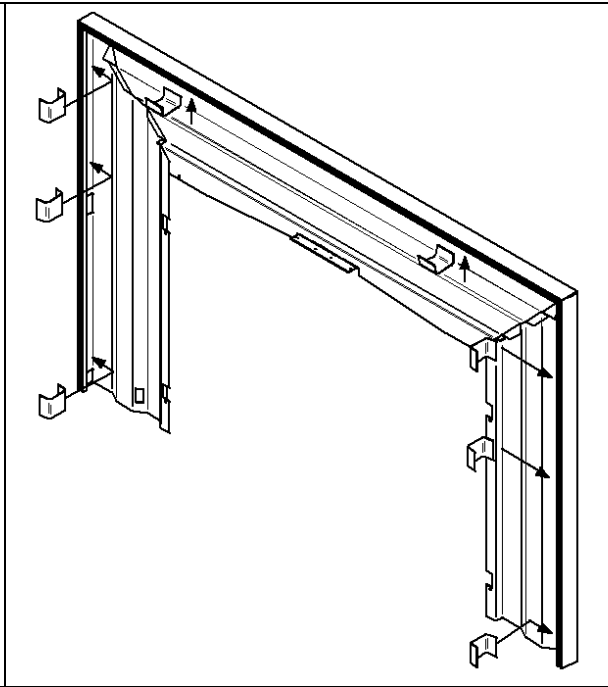

Figure 15
5. Slide the assembled trim over the faceplate and push the faceplate trim clips between the trim and the faceplate (two on the top edge and three down each side) (Figure 15).